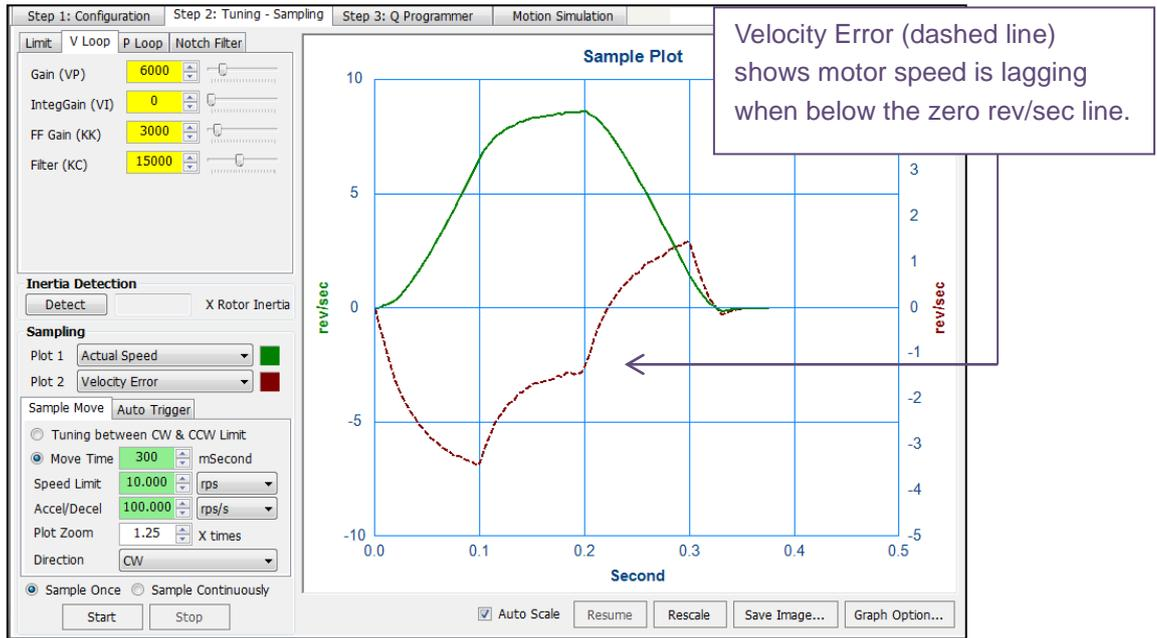

Figure 6.3.3a: Actual Speed & Velocity Error plotted; FF Gain (KK) being adjusted
- Run sample moves while increasing FF Gain (KK) first (see **Fig. 6.3.3a**)